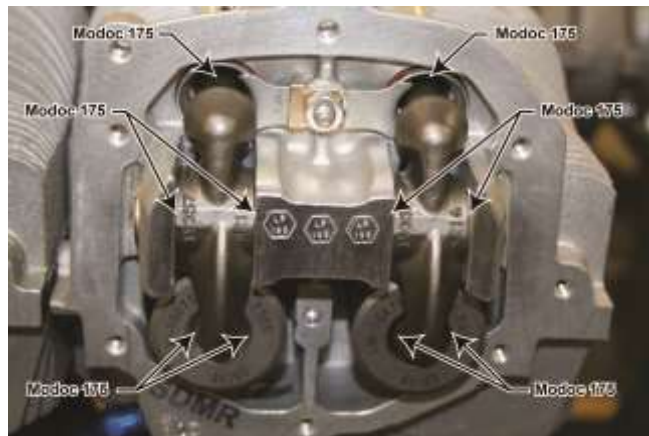

Figure 48
J. Lubricate the valve rocker contact surfaces (Figure 48) with Modoc[®] Oil 175.